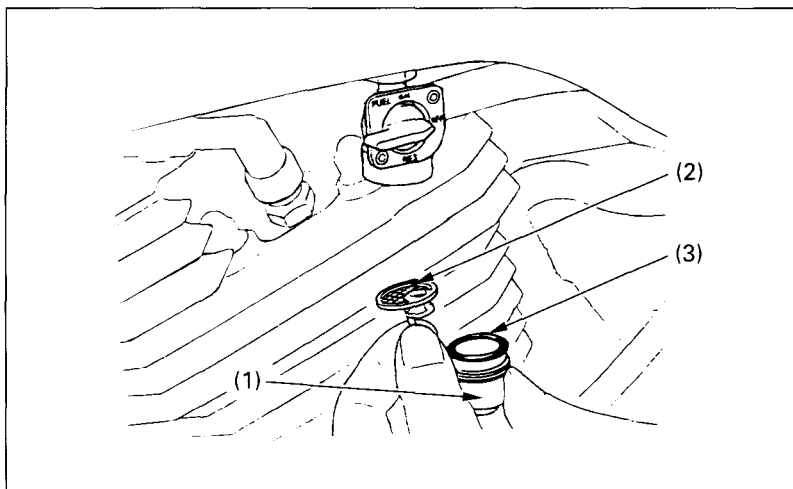

Fig. 4-3
The fuel strainer (Fig. 4-3) is in the fuel valve. The strainer has a fine mesh screen (2) which prevents dirt from entering the carburetor passages. Dirt which accumulates in the screen must be removed periodically, or the fuel flow will eventually be restricted.